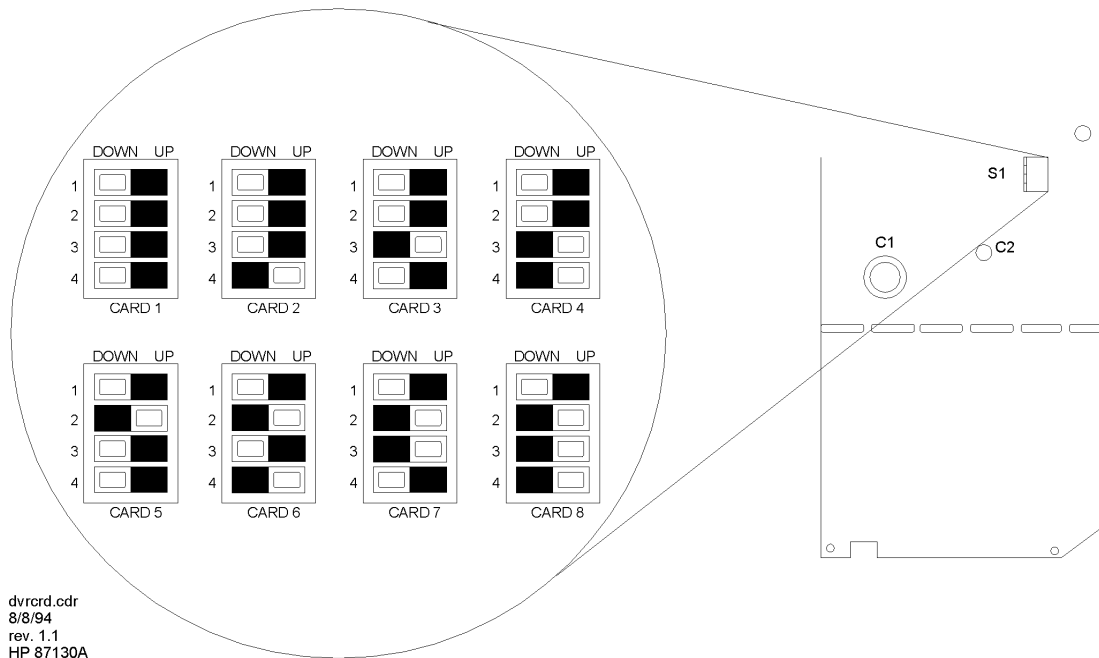

Figure 2-8 Eight Driver Card Addresses
- Each card must have a unique address. (Refer to Figure 2-8). The internal driver card is set to card 1. On card 1, J1 to J31 correspond to channels 100 to 130 on your switch driver channel menu. Card 2 would correspond to channels 200 to 230; card 3, 300 to 330, and so forth up to card 8, 800 to 830. All of these channels are set with the drive enabled.